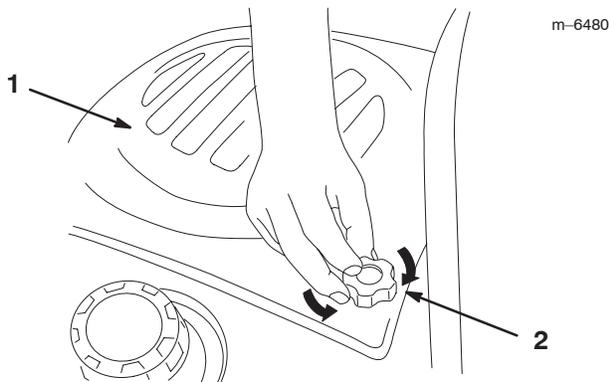

Figure 15
1. To remove the hood, loosen the knobs and then pull the hood back and up (Fig. 15).
3. Tighten the knobs in the engine hood (Fig. 15).